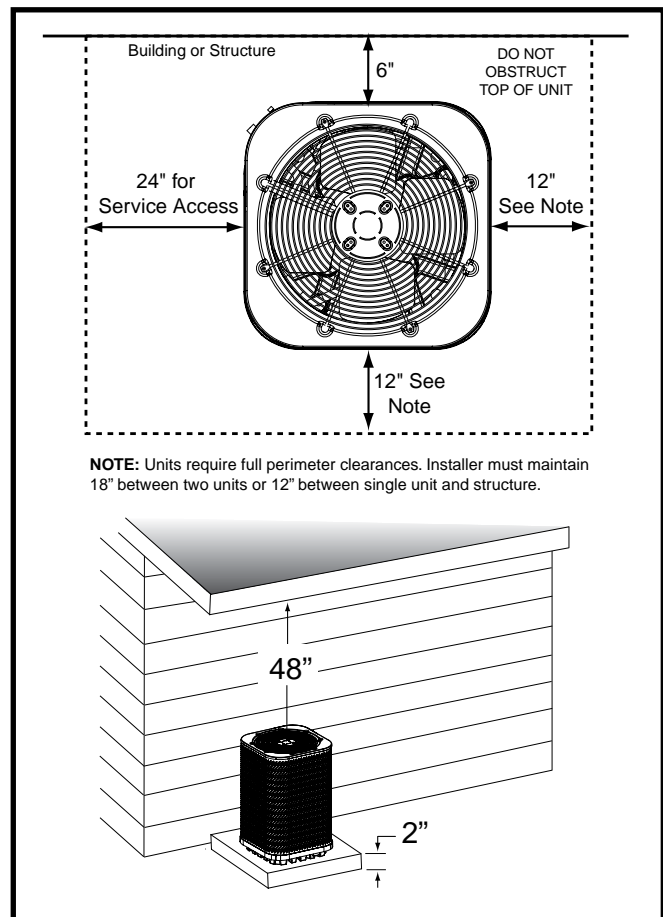

Figure 1. Clearance Requirements
- Overhead obstructions (Figure 1), poorly ventilated areas, and areas subject to accumulation of debris should be avoided.
- Clearances must be in accordance with those shown in Figure 1.
- A suitable mounting pad must be provided and separate from the building foundation. The pad must be level and strong enough to support the weight of the unit. The slab height must be a minimum of 2" (5 cm) above grade and with adequate drainage. See Figure 1.